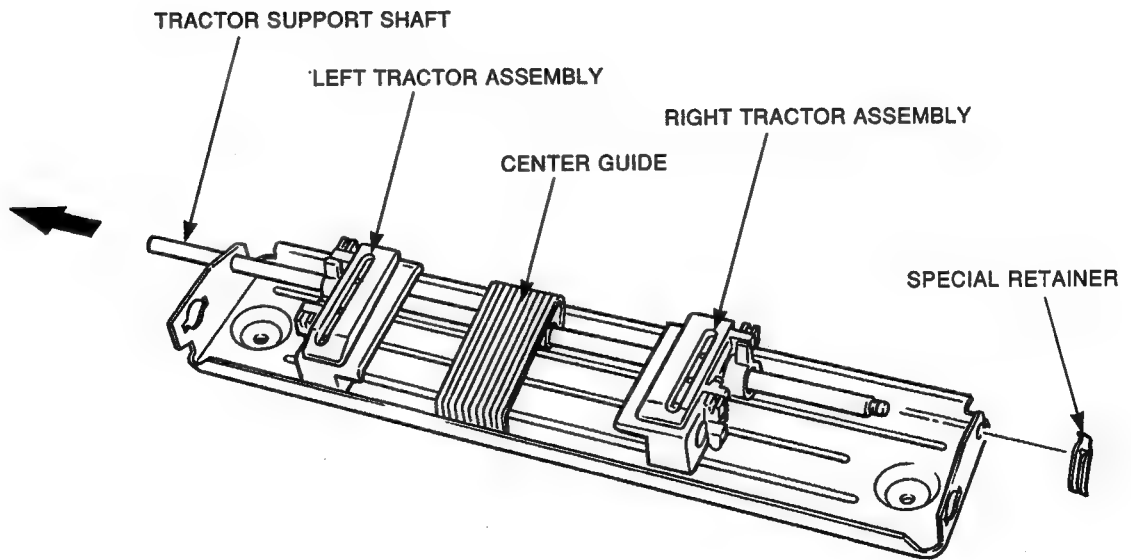

Figure 3-61 Tractor Support Shaft
5. Remove the special retainer and slide the tractor support shaft to the left side (see Figure 3-61).